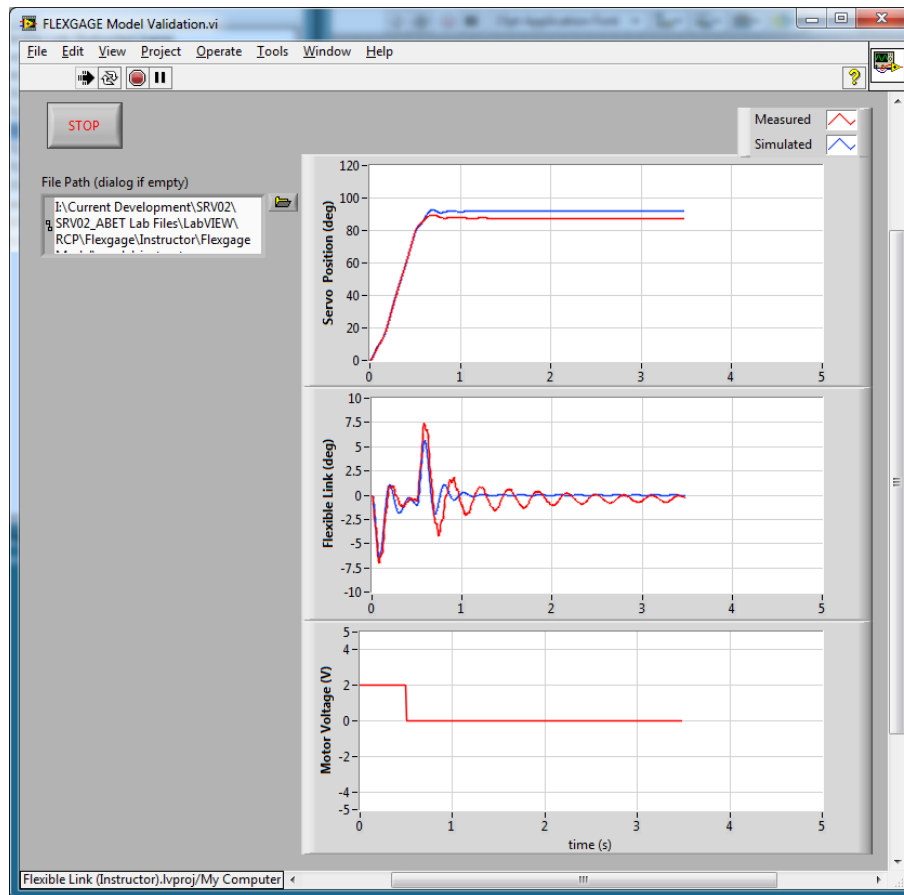

Figure 2.7: VI used validate the model
The *FLEXGAGE Model Validation VI* shown in Figure 2.7 applies a step input to both the Quanser Flexible Link hardware and to the Flexible Link model and reads the servo and link angles. The VI interfaces to the actual hardware and outputs the measured servo and link angles. It also reads the  $A$ ,  $B$ ,  $C$ , and  $D$  state-space matrices that are loaded and outputs simulated the servo and link angles.
4. Run the VI. The VI is shown running with the default model given in Figure 2.7. The *Servo Position (deg)* scope displays the simulated servo angle in blue and the measured angle in red. Similarly, the *Flexible Link (deg)* scope shows the simulated flexible link angle in blue and the measured angle in red.